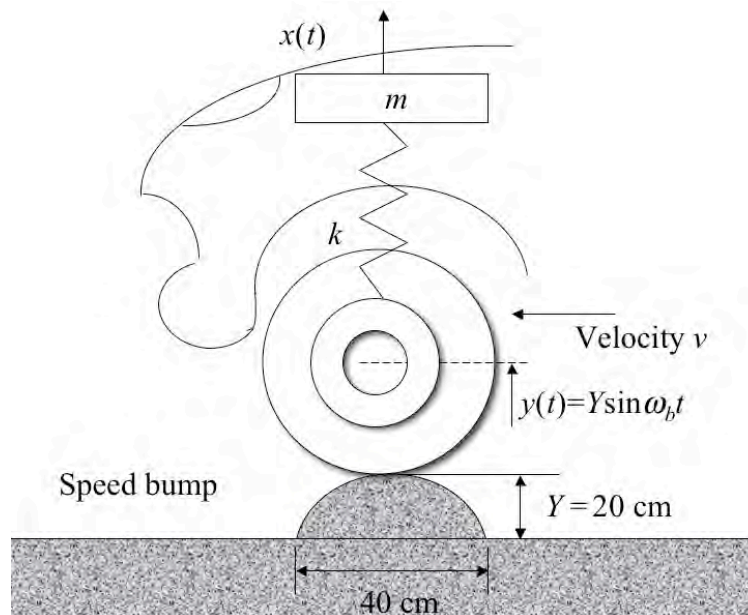

Figure P3.17 Model of a car driving over a speed bump.
- 3.17** Speed bumps are used to force drivers to slow down. Figure P3.17 is a model of a car going over a speed bump. Using the data from Example 2.4.1 and an undamped model of the suspension system ($k = 4 \times 10^5$ N/m, $m = 1007$ kg), find an expression for the maximum relative deflection of the car's mass versus the velocity of the car. Model the bump as a half sine of length 40 cm and height 20 cm. Note that this is a moving base problem.